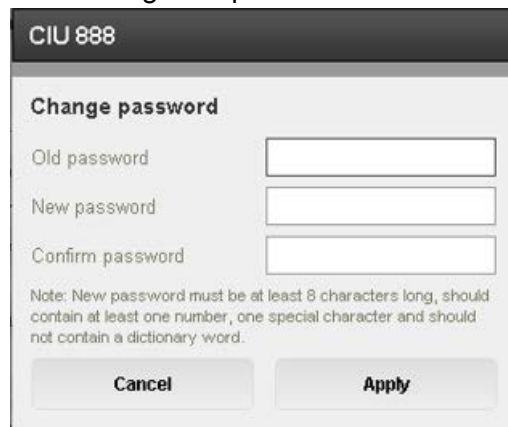

FIGURE 4-3
3. Enter the username and password to log in to the CIU 888. The username is: **ciuadmin**. The initial password is **CIU888@Enraf**. Click **LOG IN**. After entering a valid username and password, the CIU 888 prompts to change the password of the **ciuadmin** account (see FIGURE 4-3).